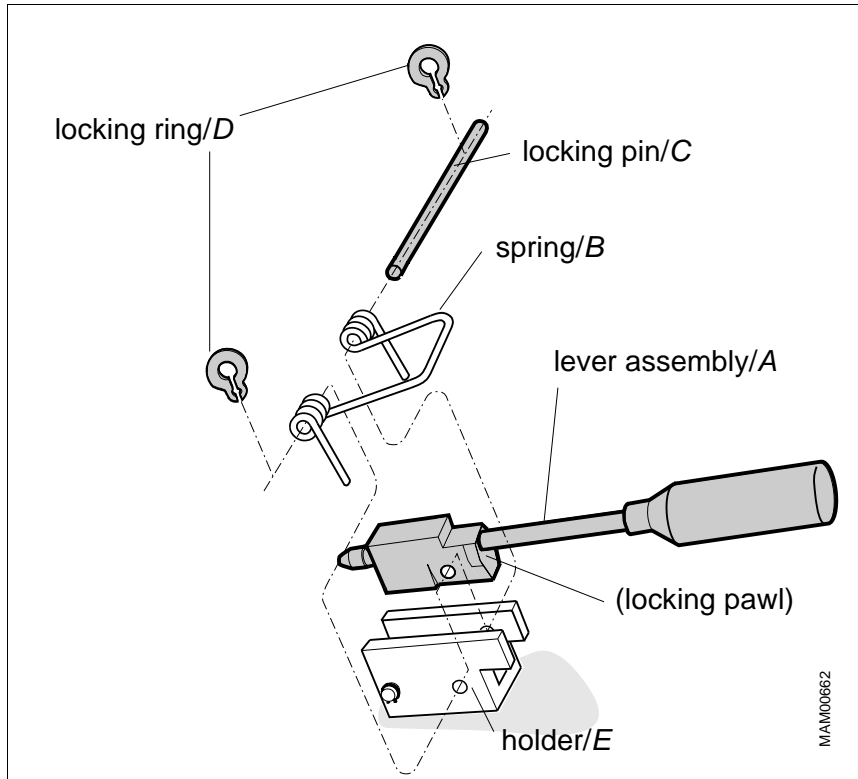

Fig. 5 Kit mounting
1. Coat the outside of the locking pawl with general purpose grease. Attach the lever assembly to the holder with the new spring, the new locking pin and the new locking rings (Fig. 5).